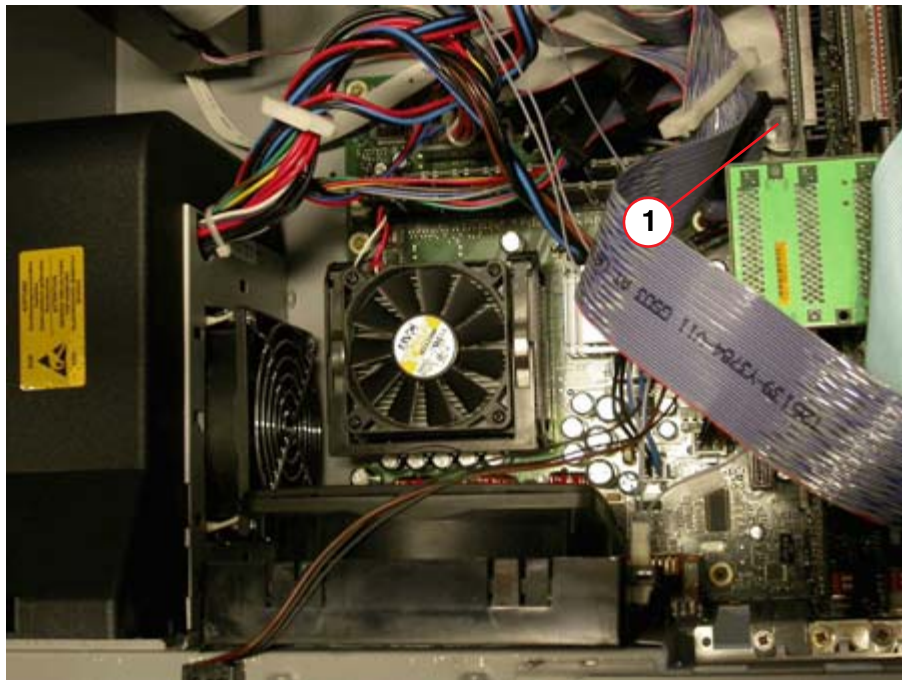

Fig. 33: PC Celsius M410
- Remove the BIOS battery using a piece of plastic (1/Fig. 33 / p. 55).